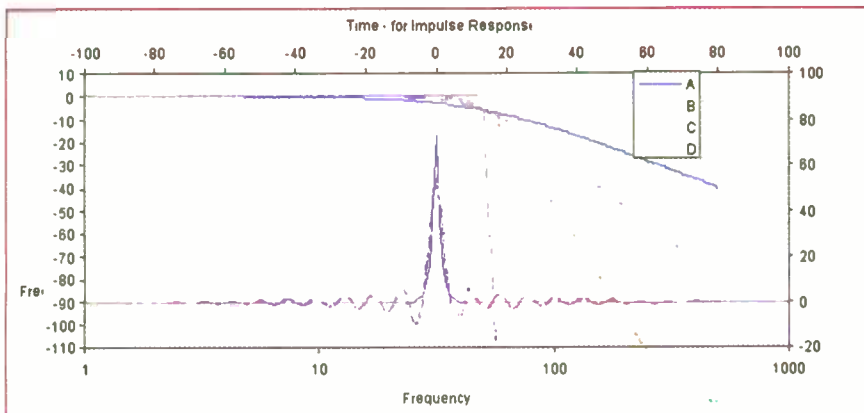

Fig. 2. Roll-off characteristics for various filters
Sharp filtering inevitably causes a ringing transient response. Filter designers and mathematicians are familiar with the problem—the effect is referred to as the Gibbs phenomenon. Fig. 2 shows responses for four filters with increasingly sharp cutoffs, and the associated transient responses. It is worth noticing that the ringing sets in at quite a gradual slope (filter B)—it is not the extreme severity of the sharper filters that causes ringing, but the move away from a very gentle filter function (A).